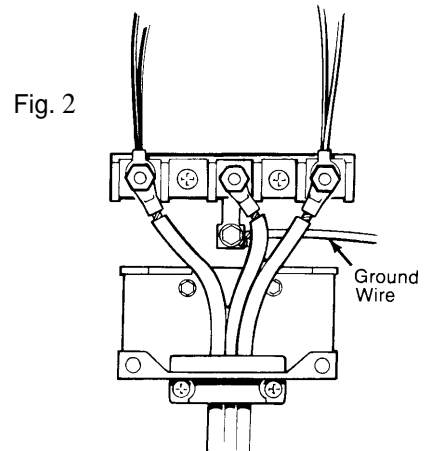

Fig. 2
3. Determine whether you will anchor the device to the floor or to the wall as shown in figure 2. For greater stability fasten the device to both the wall and the floor if possible. Fasten the device securely with the screws provided. Screws are self-drilling in wood, plywood, particle and chip board, and most metal framing. If attaching to masonry you can buy suitable screws and anchors at hardware stores. Use a masonry drill to drill the required holes.
If local codes require an ungrounded neutral (Fig. 2):